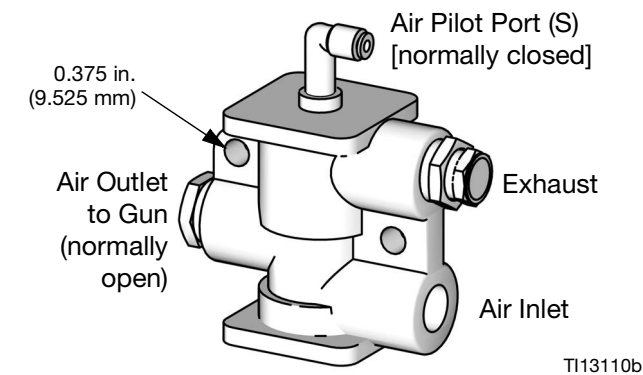

FIG. 22: Air Safety Shutoff Valve
1. See FIG. 13. Connect a 1/4 npt atomizing air line (D) from the AFS outlet nipple (103) to the air inlet port of the air safety shutoff valve (E, also see FIG. 22). Connect another length of atomizing air line (D) from the safety valve outlet port to the gun (G) air inlet.
- 4. From the **S** fitting to the atomizing air safety shutoff valve pilot port (FIG. 22).